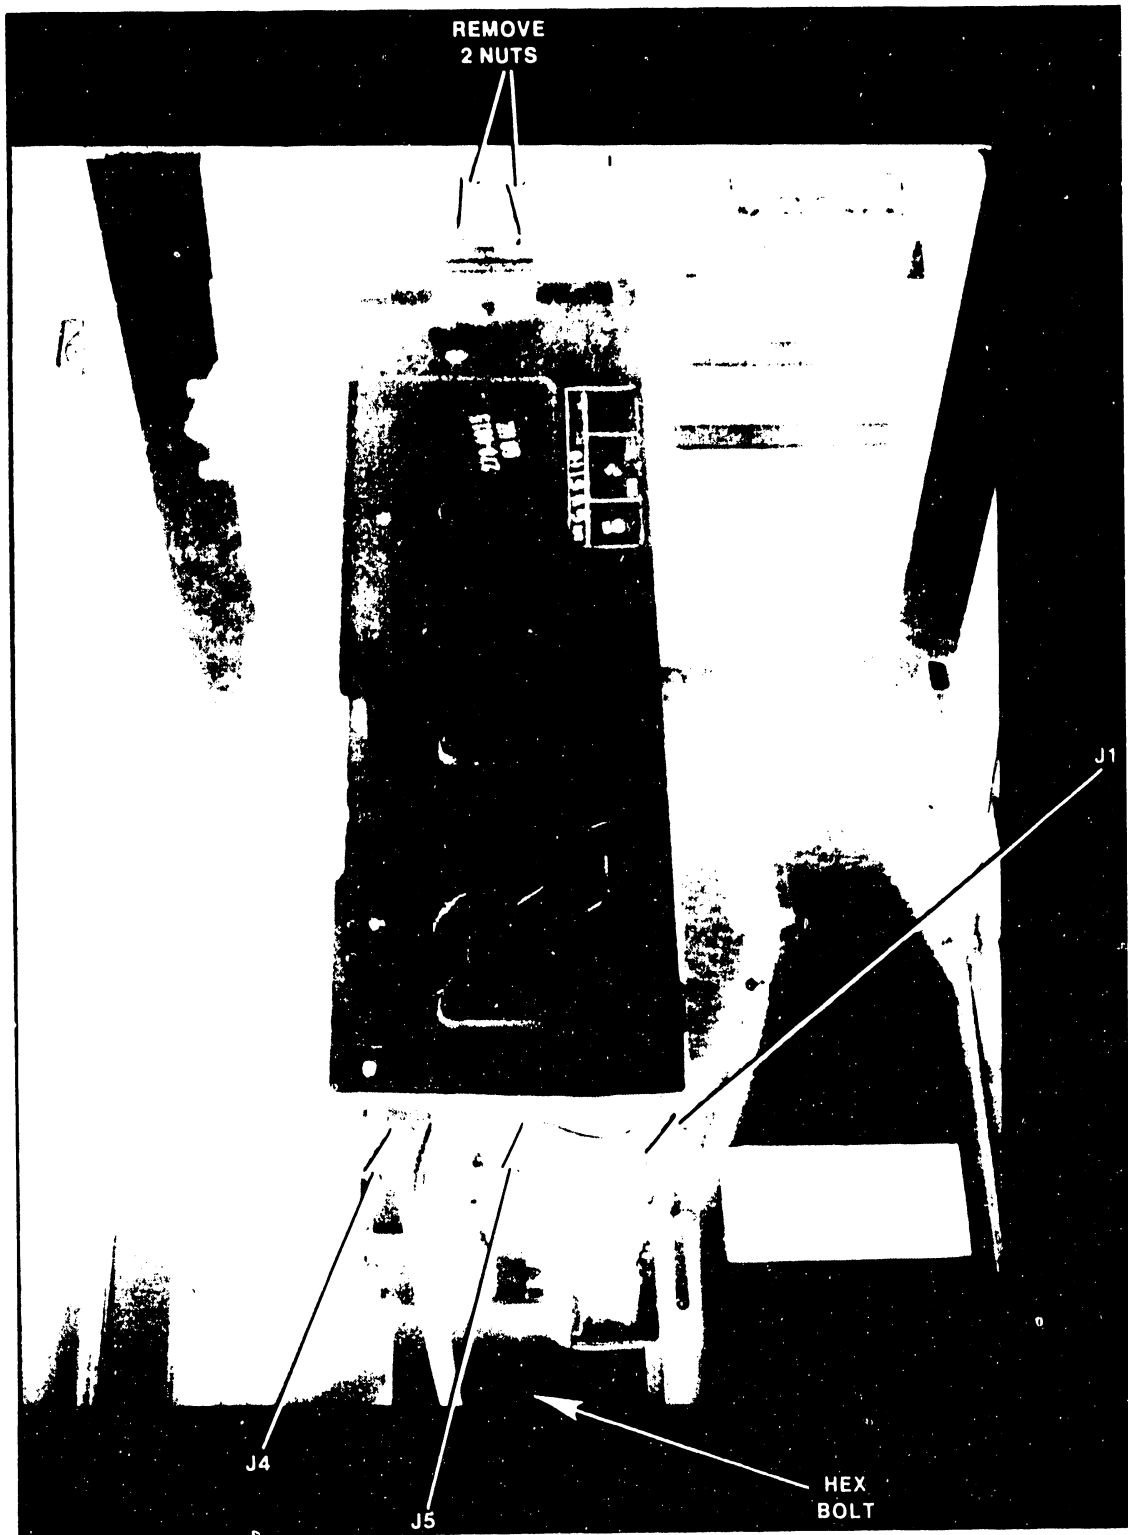

Figure 5-30. Diskette Drive
4. Remove the hex bolt from the rear base and the 2 nuts from the front panel bracket of the drive. (Figure 5-30.)